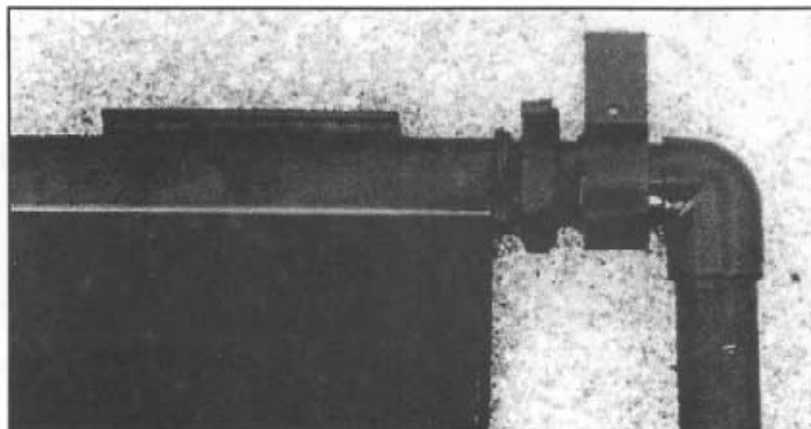

FIG 12.1
1. Cement the appropriate size PVC 90° elbow to the return line stub facing down toward the bottom header. (See Fig. 12.1, page 12).